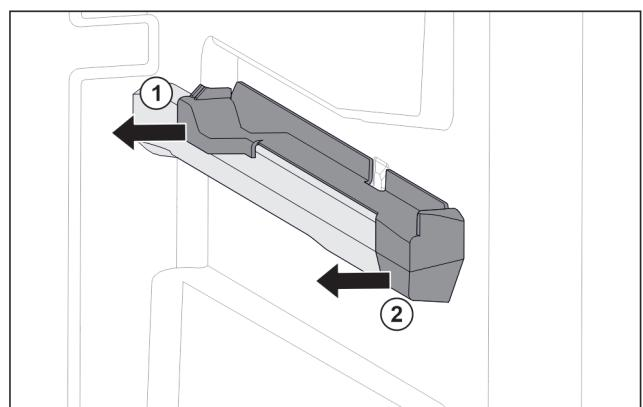

Fig. 77 Attachment on the right moulded rib
- ▶ Pull off attachment at the back sideways. Fig. 77 (1)
- ▶ Pull off attachment at the front sideways. Fig. 77 (2)